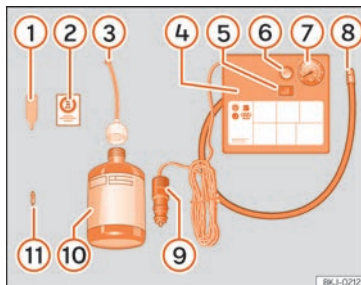

Fig. 29 Standard display: contents of the anti-puncture kit.
»» **Fig. 29:**
- Unscrew the tyre valve cap and insert. Use the device »» **Fig. 29** ① to remove the howitzer. Place it on a clean surface.
- Shake the tyre sealant bottle vigorously »» **Fig. 29** ⑩.
- Screw the tyre inflation hose »» **Fig. 29** ③ into the tyre sealant bottle. The bottle's seal will break automatically.
- Remove the filler cap »» **Fig. 29** ③ and screw the open end of the tube into the tyre valve.
»» Fig. 29 ① on the tyre valve.
- Screw the tyre inflation tube of the compressor »» Fig. 29 ⑧ on the tyre valve.
- Check that the air evacuation screw is closed »» Fig. 29 ⑥.
- Attach the connector »» Fig. 29 ⑨ to the vehicle's 12 volt power outlet »» page 102.
- Connect the air compressor with ON/OFF switch »» Fig. 29 ⑤.
- Attach the sticker »» Fig. 29 ② to the instrument panel display, within the driver's field of vision.
Screw the inflator tube »» Fig. 29 ⑤ again and check the pressure on the gauge ⑥.